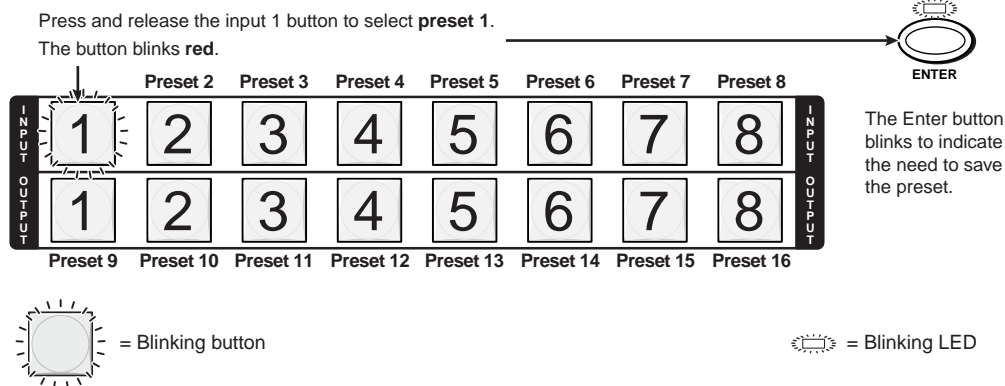

Figure 3-30 — Select the preset
3. Press and release the Input 1 button (figure 3-30).